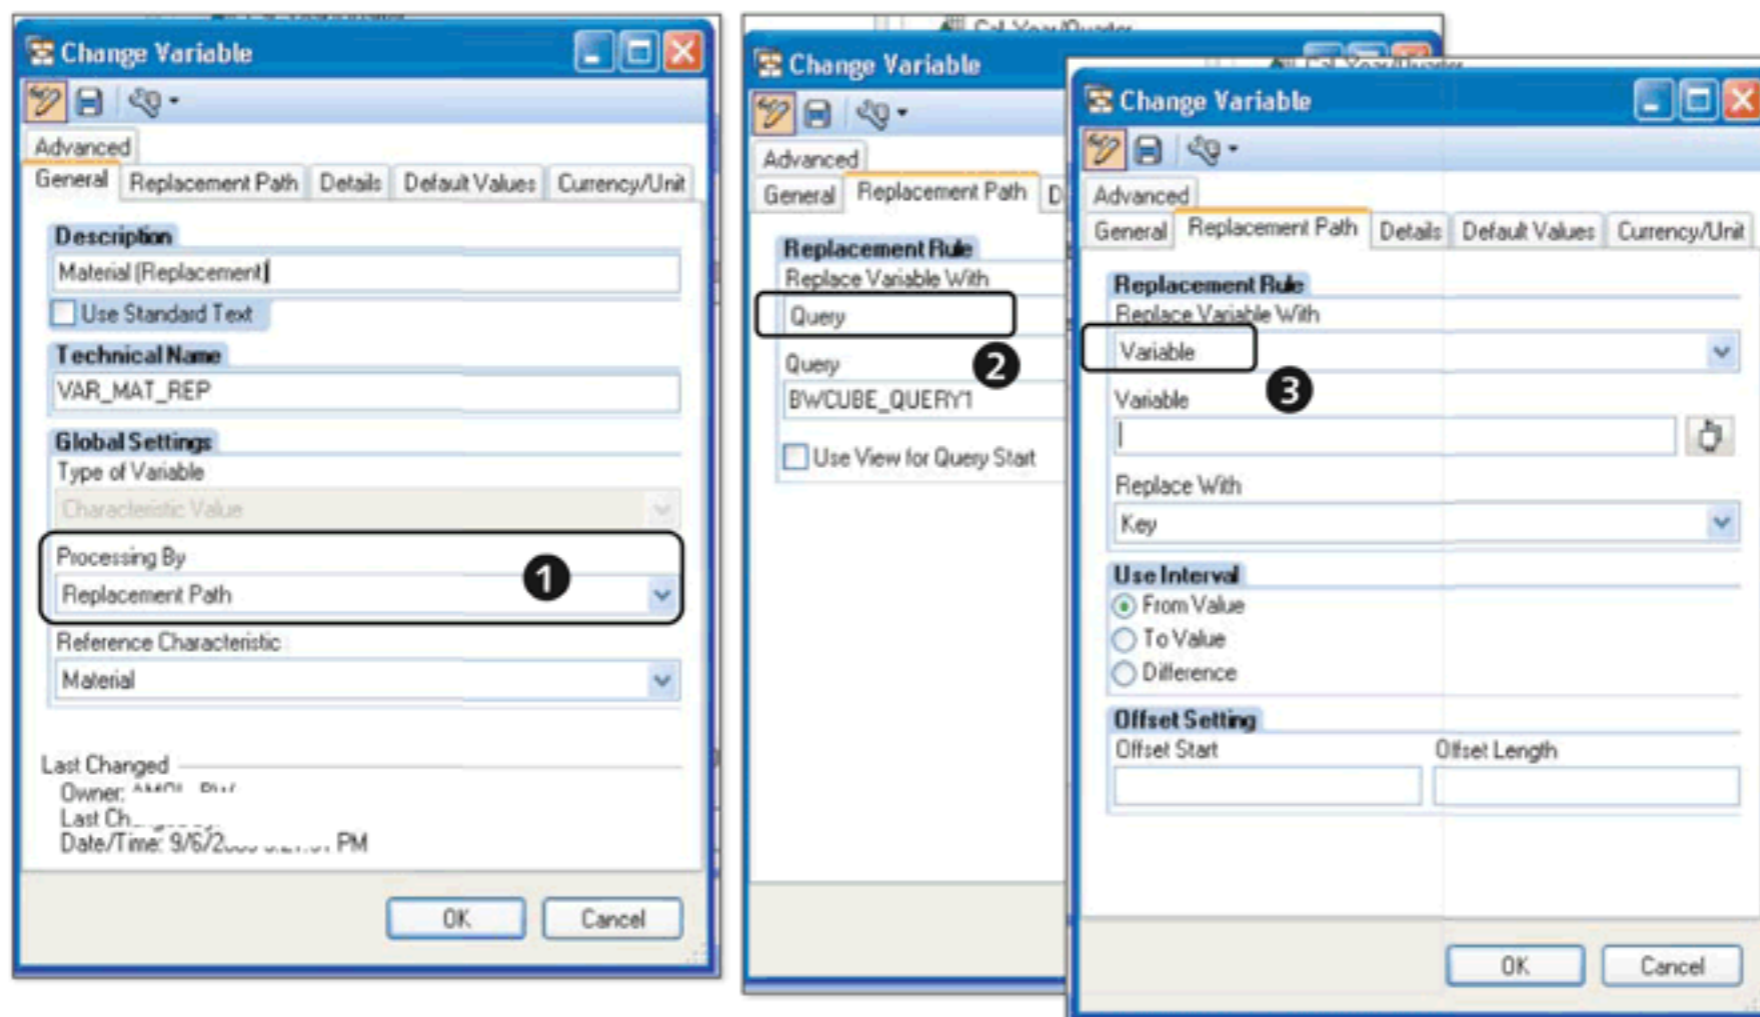

Figure 9.30 Creating Characteristic Value Replacement Path Variable
To define a replacement path variable, select REPLACEMENT PATH as the processing type from the PROCESSING BY dropdown (❶ of Figure 9.30) on the GENERAL tab of the Variable Editor.
For the selected processing type, the REPLACEMENT PATH tab is now enabled. On this tab, you can specify if the variable should be replaced with the value from a query (❷ of Figure 9.30) or if it should be replaced with a value from another variable (❸). The corresponding settings for the selected option can be done on the same tab.